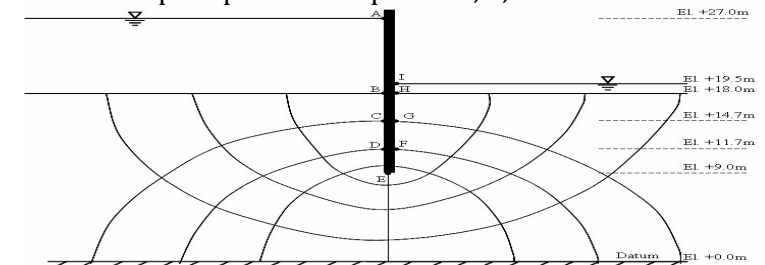

Figure 4
- (c) A sheet pile wall (Figure 4) is driven into a silty soil having co-efficient of permeability of 0.5×10^{-6} cm/sec. The length of the last element is 3.45 m. Find the pore pressure at points B, C, F and H.